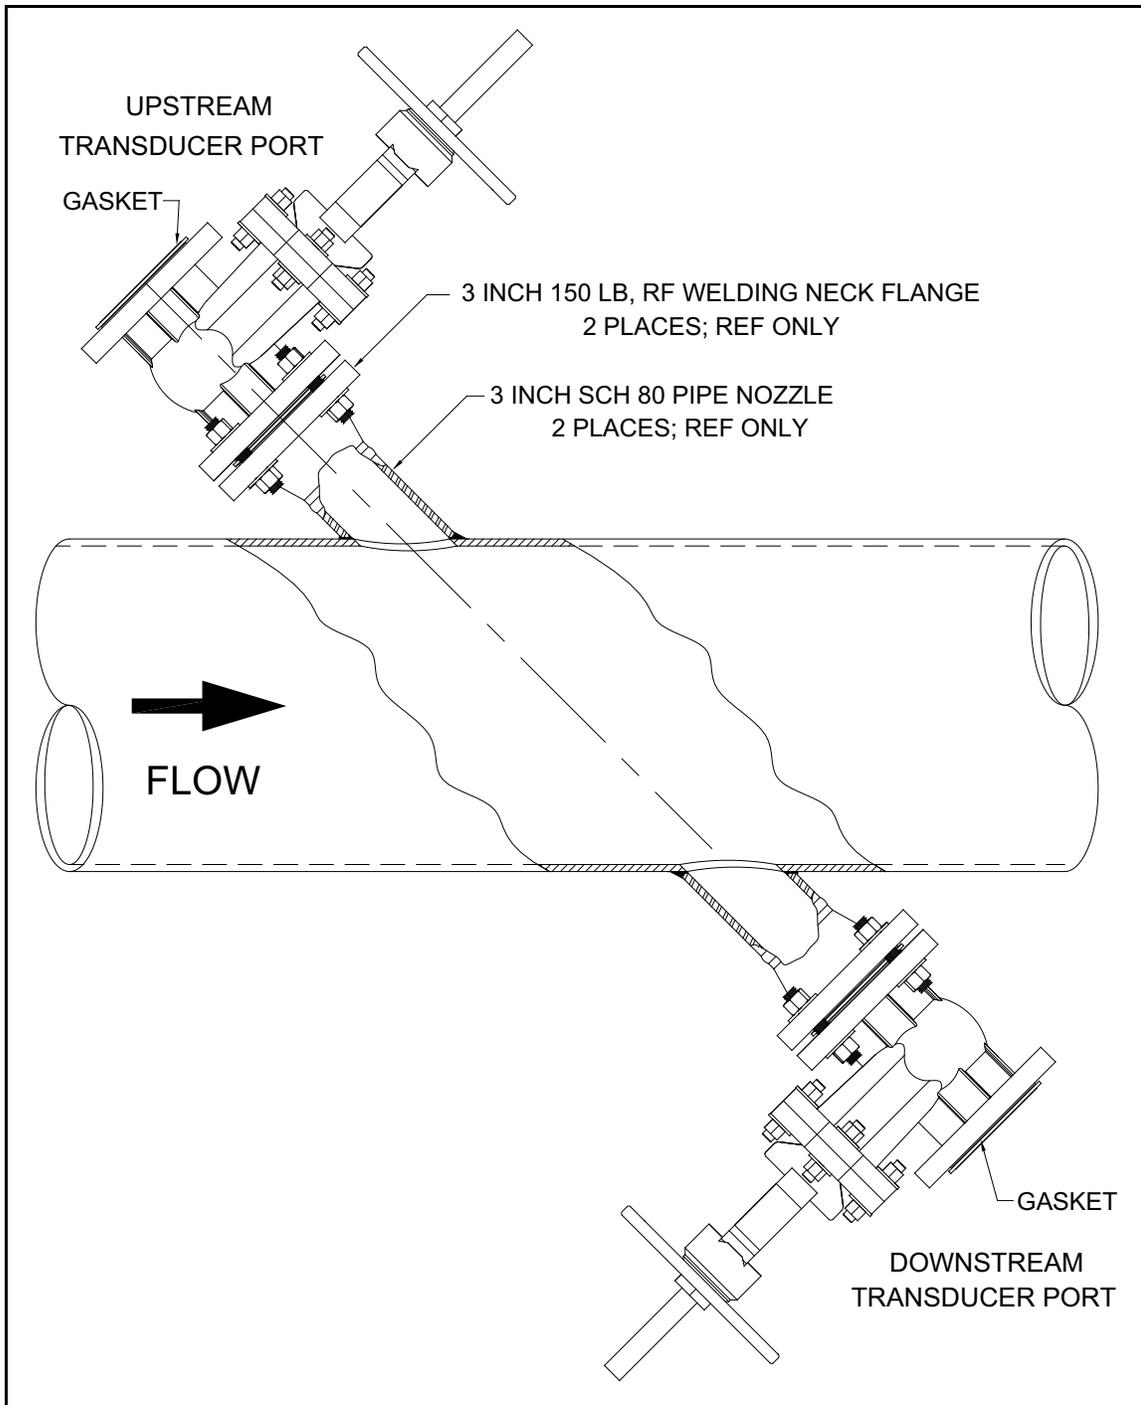
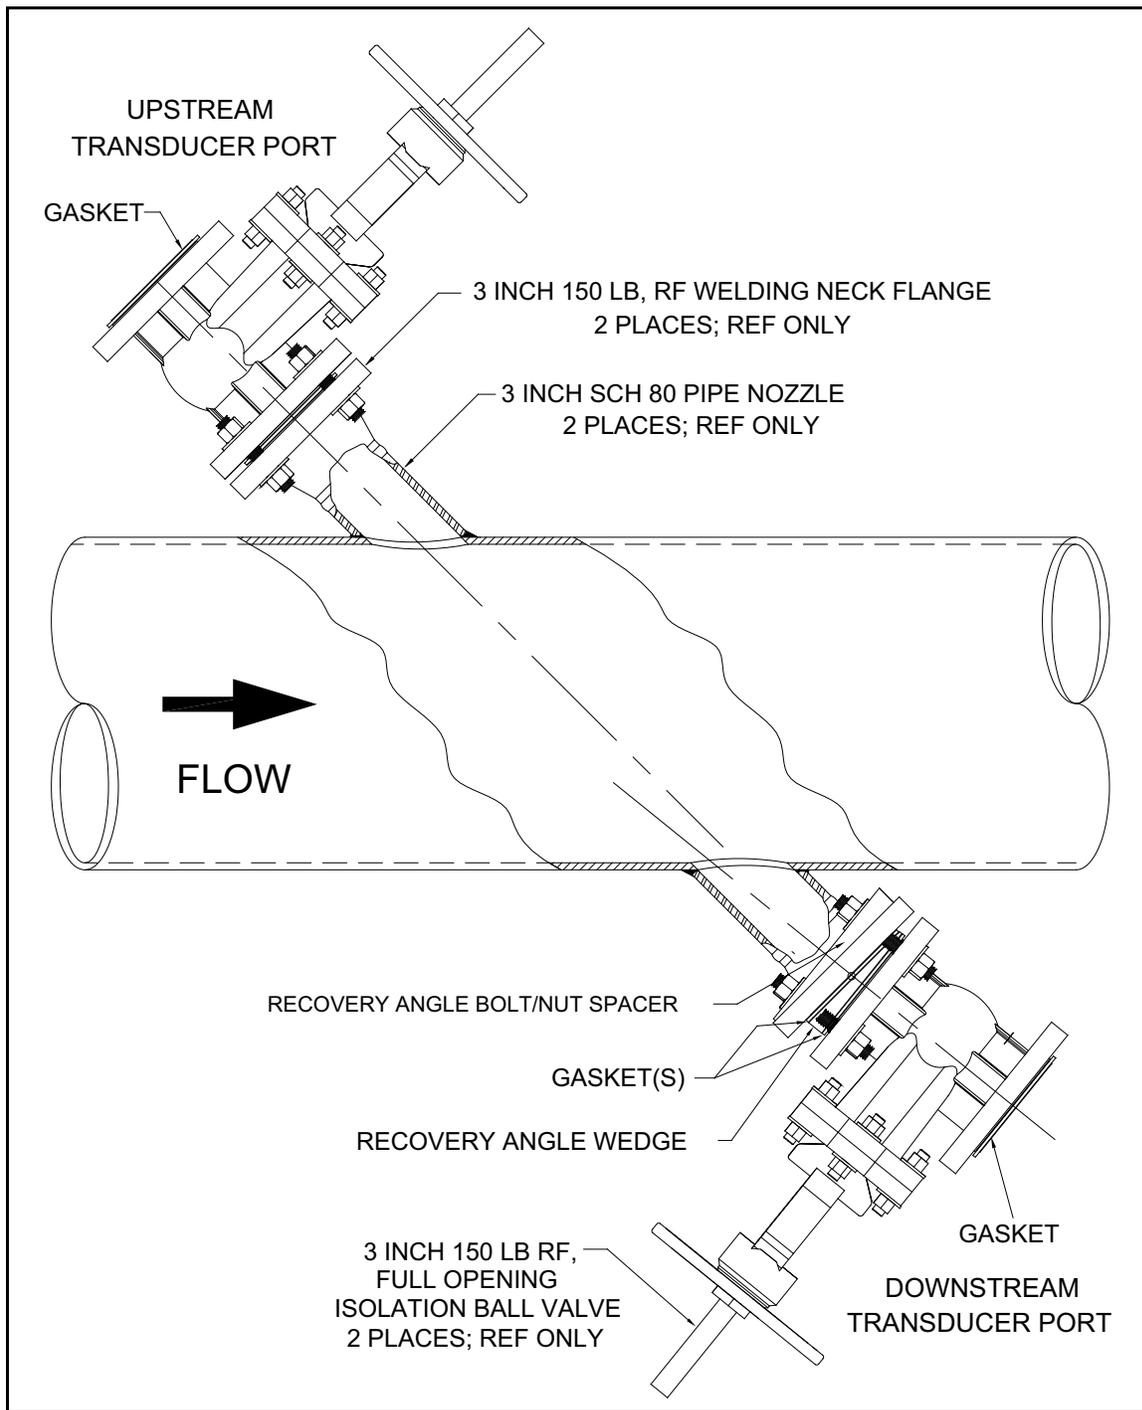

Figure 14: Standard Velocity Range Assembly
Figure 15: Extended Velocity Range Assembly
2. Check and make sure the isolation valves are securely installed with gaskets and hardware. Then, place a gasket on the face of each isolation valve (see either *Figure 14* below or *Figure 15* on page 48).